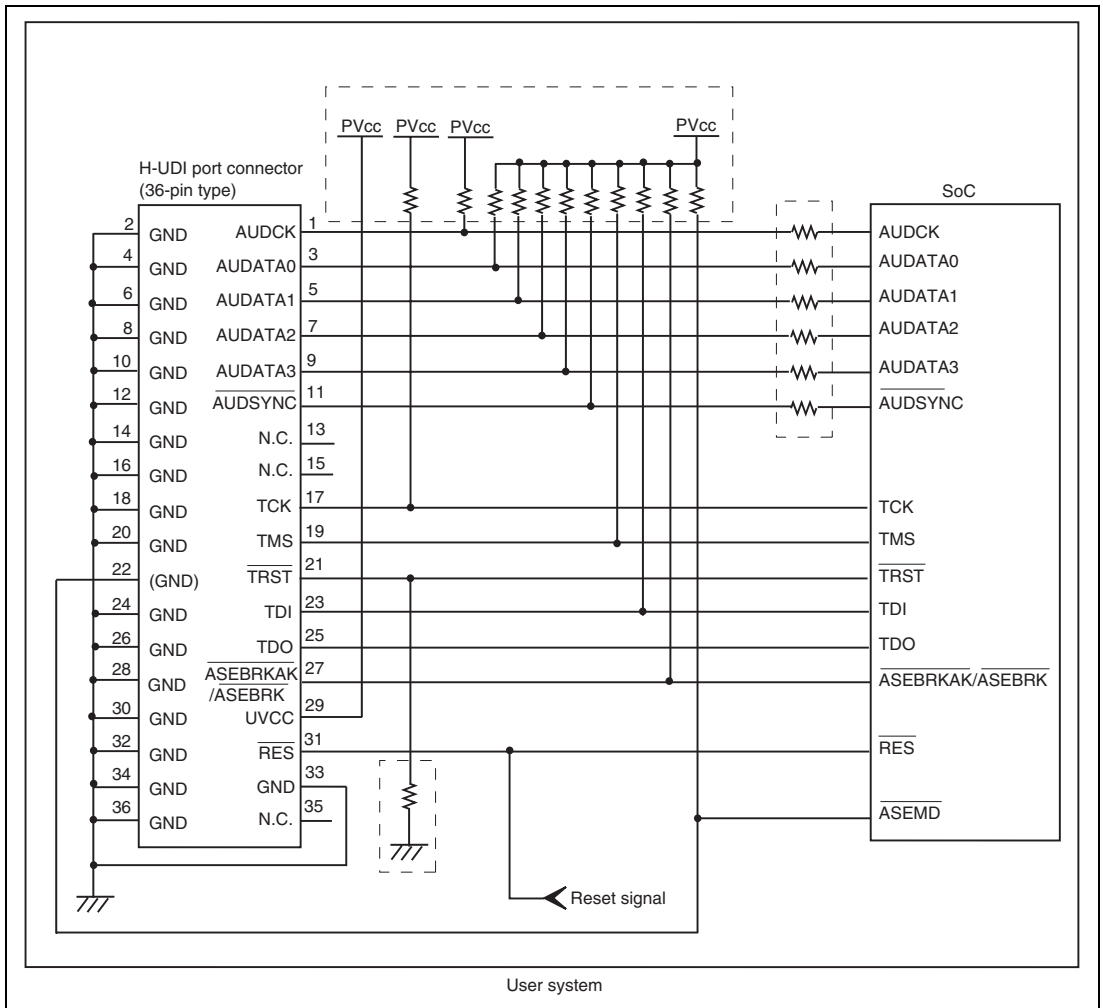

Figure 1.5 Recommended Circuit for Connection between the H-UDI Port Connector and MCU when the Emulator is in Use (36-Pin Type)
Figure 1.5 shows a recommended circuit for connection between the H-UDI and AUD port connectors (36 pins) and the MCU when the emulator is in use.
- (1) When the emulator is used: ASEMD# = 0
- (2) When the emulator is not used: ASEMD# = 1Figure 1.5 shows an example of circuits that allow the ASEMD# pin to be GND (0) whenever the emulator is connected by using the user system interface cable. When the ASEMD# pin is changed by switches, etc., ground pin 22. Do not connect this pin to the ASEMD# pin.
When the circuit is connected as shown in figure 1.5, the switches of the emulator are set as SW2 = 1 and SW3 = 1. For details, refer to section 3.8, Setting the DIP Switches, in the SuperH™ Family E10A-USB Emulator User's Manual.